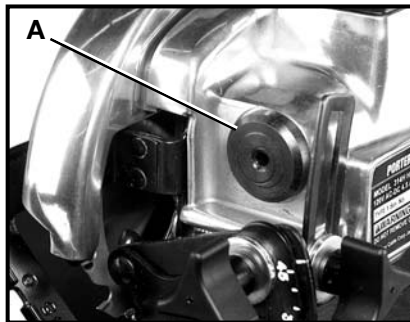

Fig. 12
6. Loosen oil plug (A) Fig. 12 with wrench provided.